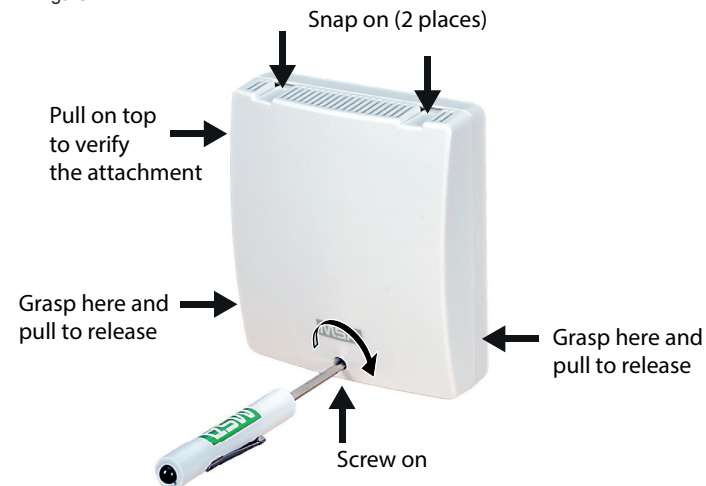

Figure 4: Attaching or Removing the Cover
- Note:** Verify cover is securely attached to base by pulling on the top and bottom of the cover as shown in Figure 4.
5. To remove the cover, remove the screw and pull the enclosure away from the base as show in Figure 4.